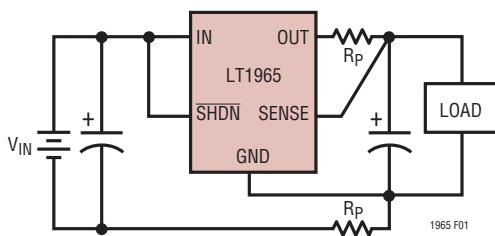

Figure 1. Kelvin Sense Connection
**SENSE (Pin 3 / 3 / 5 / 5):** Sense. For fixed voltage versions of the LT1965 (LT1965-1.5/LT1965-1.8/LT1965-2.5/LT1965-3.3), the SENSE pin is the input to the error amplifier. Optimum regulation is obtained when the SENSE pin is connected to the OUT pin of the regulator. In critical applications, small voltage drops are caused by the resistance ( $R_P$ ) of PCB traces between the regulator and the load. These drops may be eliminated by connecting the SENSE pin to the output at the load as shown in Figure 1 (Kelvin Sense Connection). Note that the voltage drop across the external PCB traces will add to the dropout voltage of the regulator. The SENSE pin bias current is 100µA at the nominal rated output voltage. The SENSE pin can be pulled below ground (as in a dual supply system where the regulator load is returned to a negative supply) while still allowing the device to start and operate.